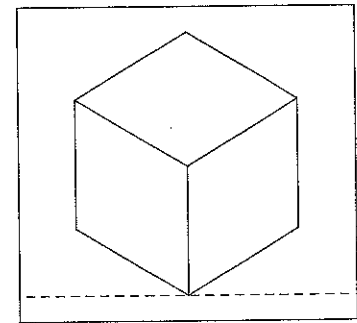

Figure 5-64: Step 4.
- Step 4.** Draw in the top view with all lines drawn 30 degrees to the horizontal (see Figure 5-64).